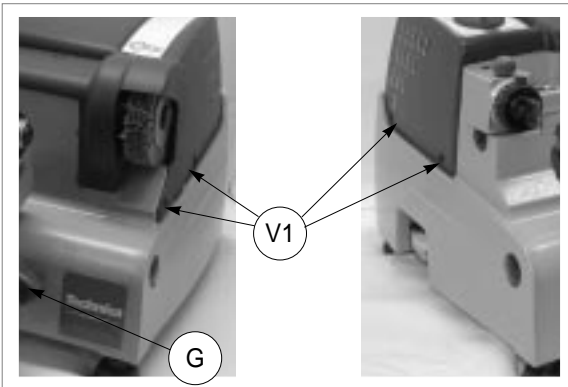

Fig. 26
- 1) Use the lever to raise the carriage and secure by tightening the knob (G) (fig. 26).
- 3) Remove the 4 screws (V1) on the top cover and remove by lifting it slightly and turning (fig. 26, page 18).